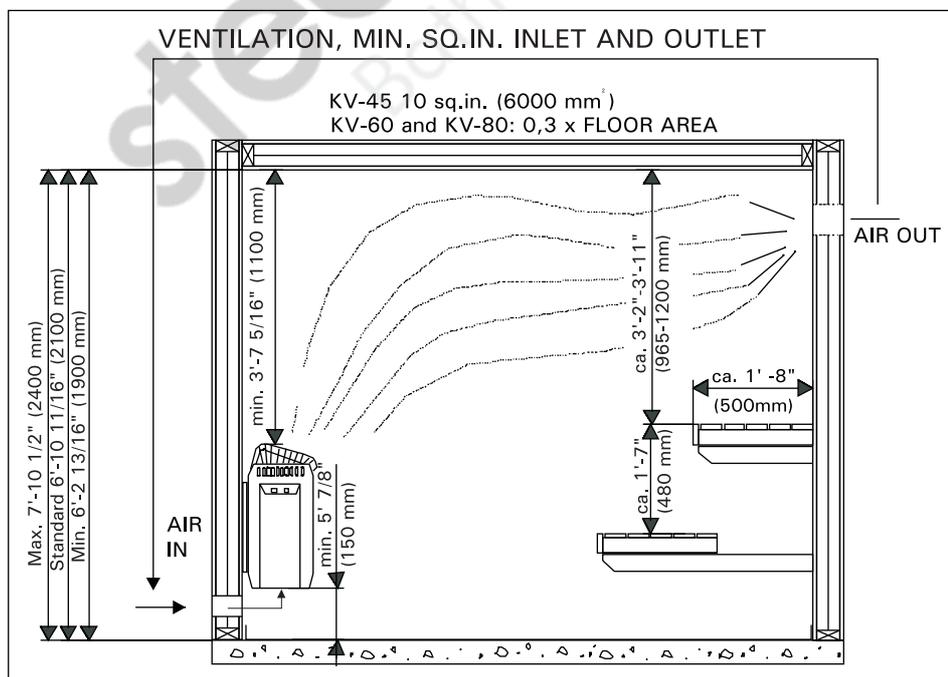

Figure 4. Sauna room
When aiming at a reasonable heater output, it may be advisable to lower the ceiling of the sauna (normally 6' – 10 11/16" (2100 mm)). See figure 4. As a result, the volume of the sauna is decreased, and a smaller heater output may be sufficient. The ceiling can be lowered so that the ceiling joists are fixed at a suitable height. The spaces between the joists are insulated (minimum insulation 4" (100 mm) and surfaced as described above.
CEILING HEIGHT	See figure 4.
See fig. 4.
Table 1. Installation details of a KV heater. See fig. 4 and item 2.3. "Heater output"
- NOTE!** There should be a support, e.g. a board, behind the panel, so that the fastening screws can be screwed into a thicker wooden material than the panel. If there are no boards behind the panel, the boards can also be fastened on the panel. See figure 4.